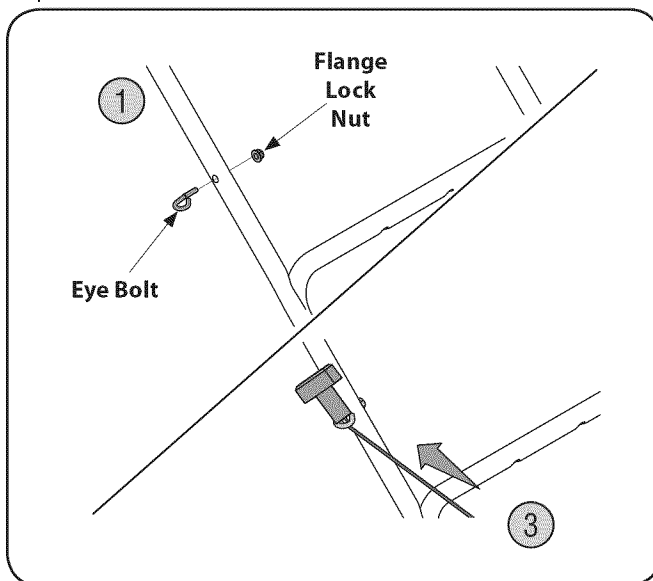

Figure 3-8
1. Attach the eye bolt to the upper handle and loosely thread the lock nut on to secure it. Do NOT tighten. See Fig. 3-8.
3. Loop the rope through the eye bolt. See Fig. 3-8.